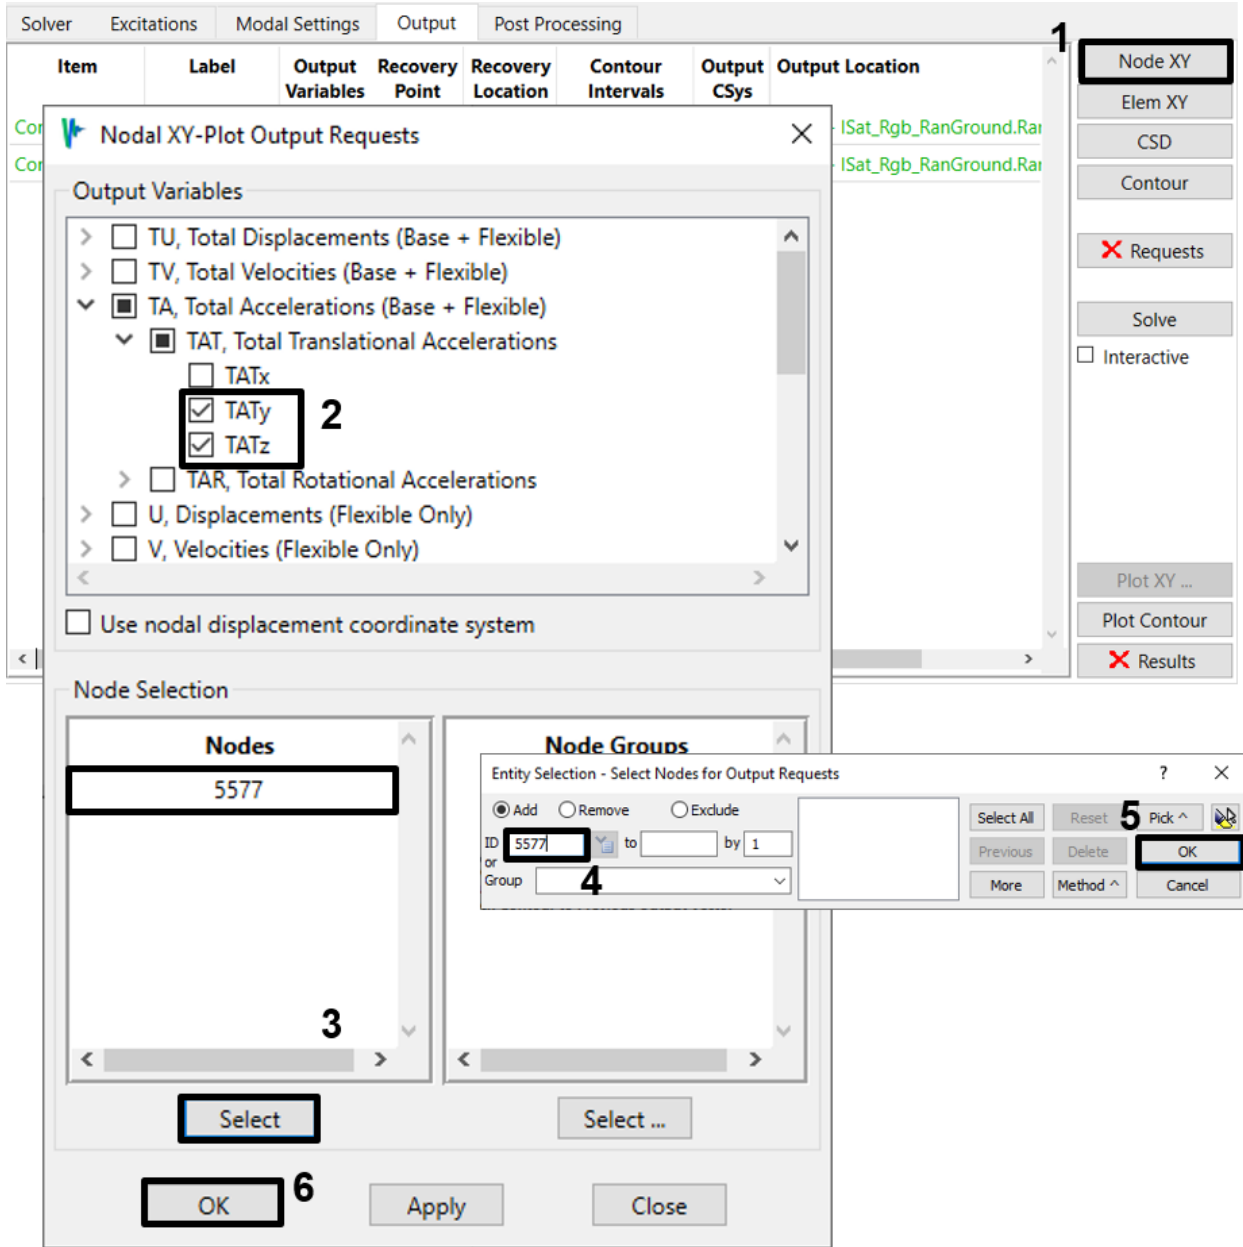
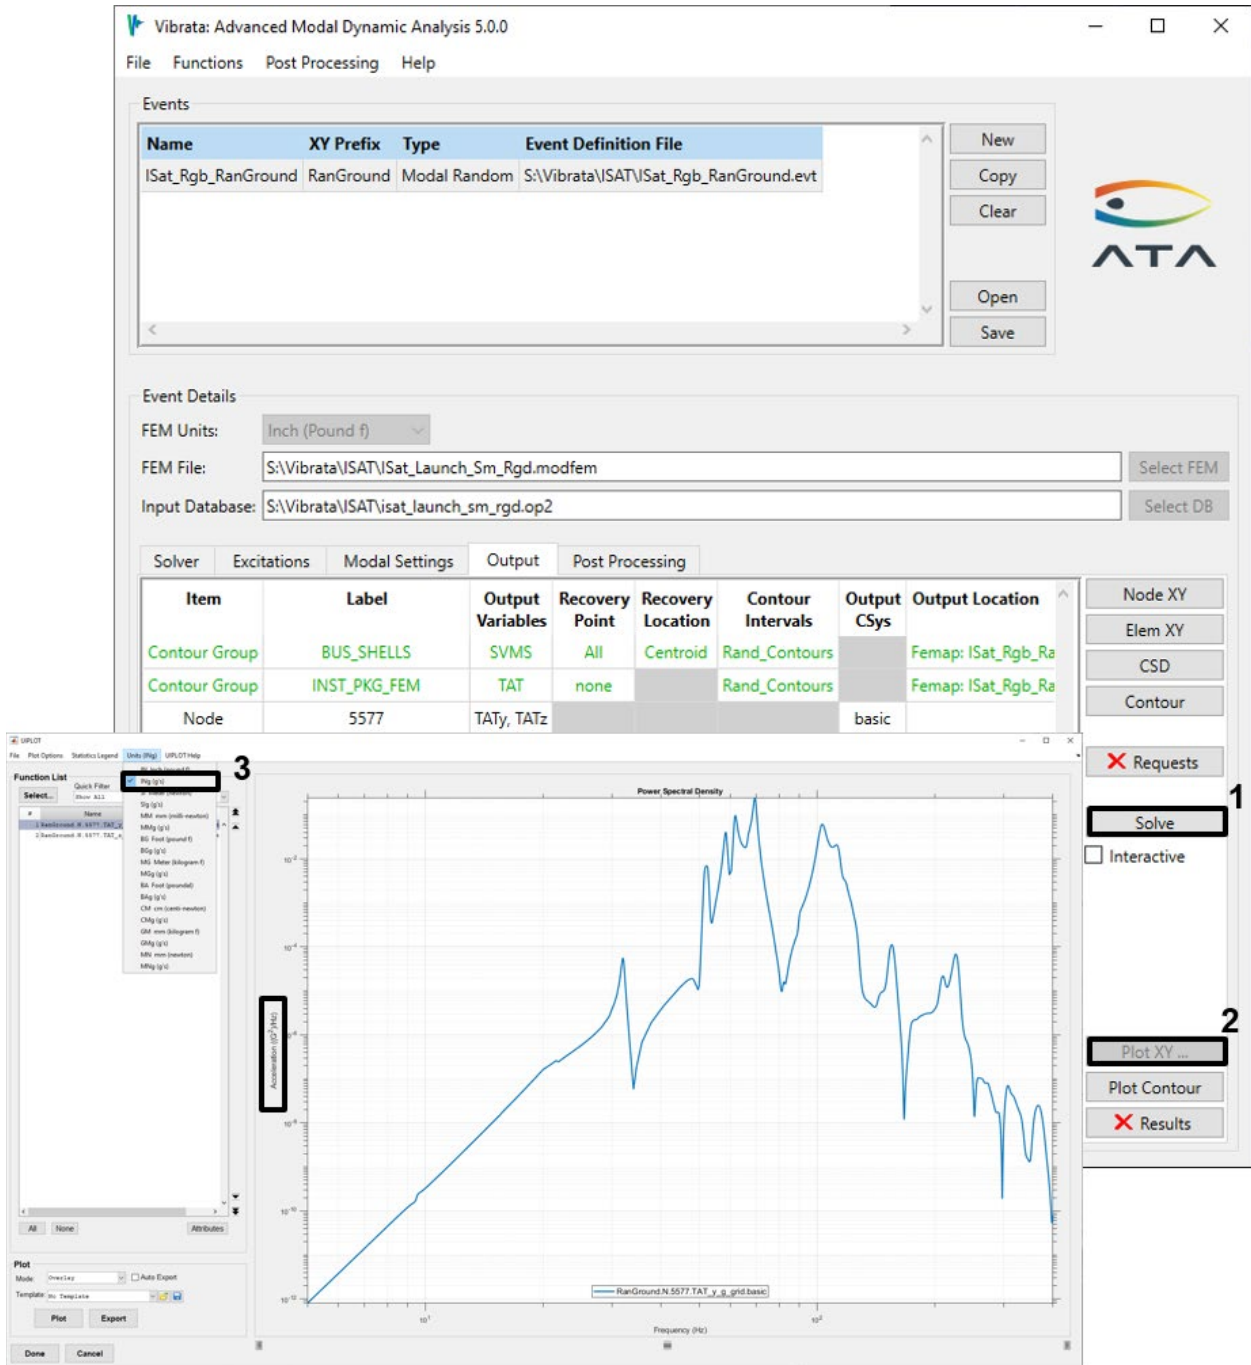

Figure 4-48. Request Y- and Z-direction total accelerations for node 5577.
Figure 4-49. Node 5577 total Y-acceleration in  $g^2/Hz$  units, rigid base.
8. The highest RMS acceleration occurs at node 5577 for Y-acceleration. That node also shares the highest Z-acceleration, although it is lower than the Y-direction. You would like to know the frequencies at which the largest responses occur, so create a Node XY output request for that node and those directions (Figure 4-48). (You can request X-acceleration if you wish, but it will clutter the plotting displays.) Solve this new request and plot the Y-acceleration function (Figure 4-49). Set the display units to "IN (G's)" to see the responses in  $g^2/Hz$  rather than  $(in/s^2)^2/Hz$ .